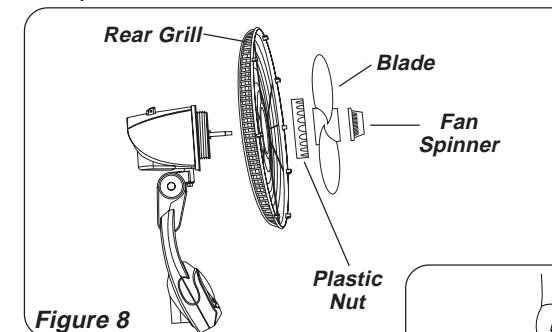
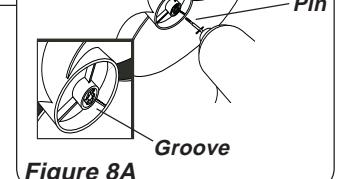

Figure 8
Figure 8A
3. Fully seat **Rear Grill** and secure with **Plastic Nut** turning Clockwise. Slide **Blade** onto **Motor Assembly Shaft**. (**Figure 8**) Align **Groove** on blade hub with **Pin** on motor assembly shaft. (**Figure 8A**)